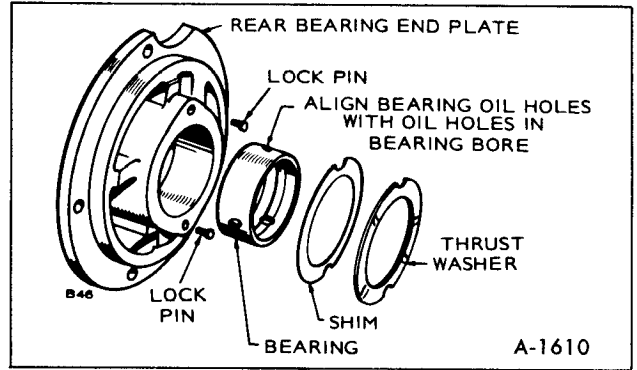

Figure 21-Bearing For Rear Bearing Plate
**NOTE:** Original front bearing uses a separate thrust washer. Replacement front bearing is a one piece assembly with thrust washer part of the bearing. Do not use a separate thrust washer when installing this replacement part. See Figures 21 and 22.